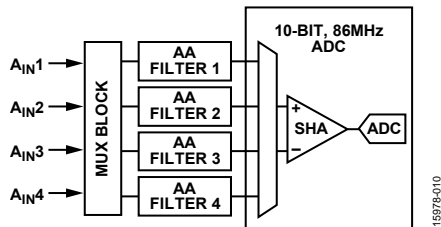

Figure 9. Antialias Filter Configuration
The ADV7182A has optional on-chip antialiasing (AA) filters on each of the four channels that are multiplexed to the ADC (see Figure 9). The filters are designed for standard definition video up to 10 MHz bandwidth. Figure 10 and Figure 11 show the filter magnitude and phase characteristics.